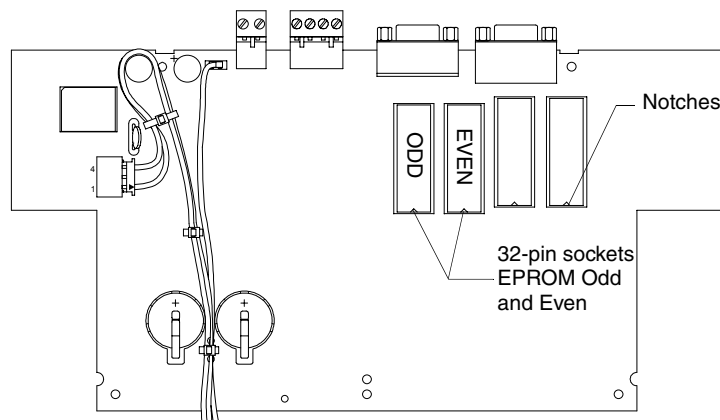

FIG. 16 EPROM location on a TiltScreen touch panel
5. Gently tilt the circuit card down towards the connector side and pull backwards until you clear the connector housing. Then, slowly rotate the circuit card backwards until you can lay it down flat with the EPROMs exposed as seen in FIG. 16. EPROMs have stickers indicating the firmware version.